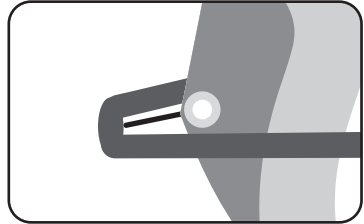

Fig. 6: Set the boom length to the outhaul cord
- c) Then, gently pull on the outhaul cord and set your boom to the end of the cord (Fig. 6).